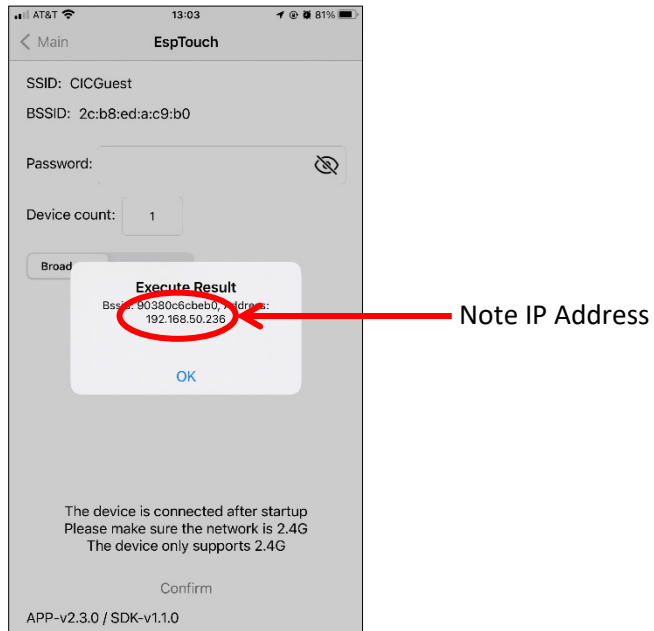

Figure 16: ESPTouch IP Address Display
8. When the connection is successful, the ESPTouch app will display IP address. Take note of this IP address for **Step 10**. Note: This address may change every time a new connection is established. See **Figure 16**.